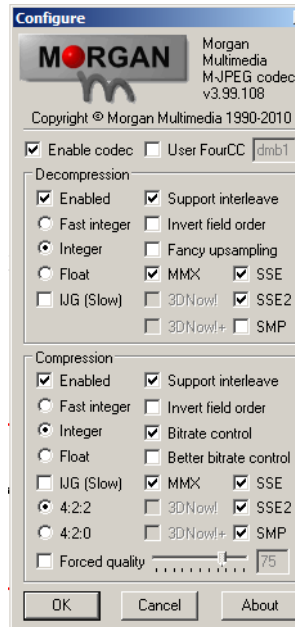

Figure 12. Configure Video Codec
1. Click  in the System Tray. The **Configure** dialog appears (see Figure 12).